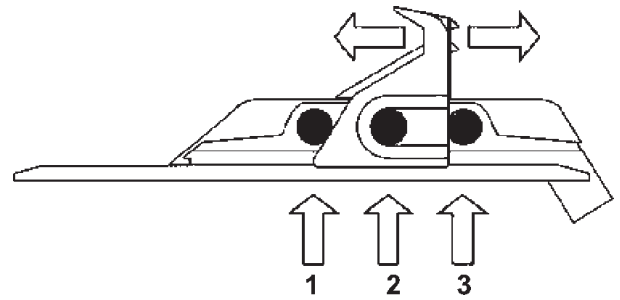

Figure 3.0-6
- H.** The turntable jaws can be positioned in three different ways. Push the lever on the left side of each jaw and shift at the same each one (Fig. 3.0-6 / 3.0-7).